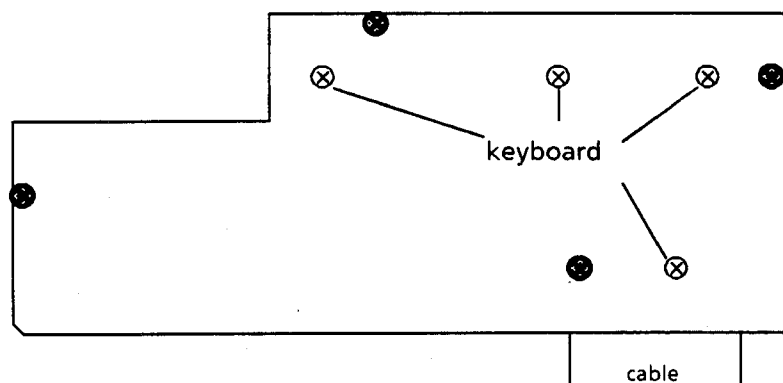

Fig. 7-13 Fastening points of the display board
After having removed the filter board, remove the 4 Phillips screws on the solder side of the display board (→ Fig. 7-13).
- Remove the fastening screws of the retaining plate according to Fig. 7-13.